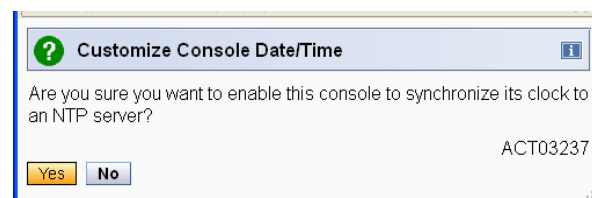

Figure 1-18 NTP server enable confirmation request ACT03237
- Once Enable NTP service is checked, click **OK** to enable this console to synchronize its clock. Confirmation request ACT03237 is displayed (Figure 1-18).